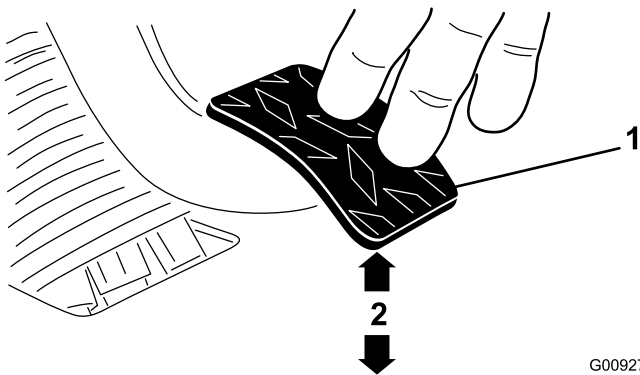

Figure 71
3. Adjust the jam nuts/or ball joint until the back rear edge of the clutch pedal is 3.75" + .12" from the top of the floor plate diamond pattern, when a 4 lb. force is applied to the pedal (Figure 71).